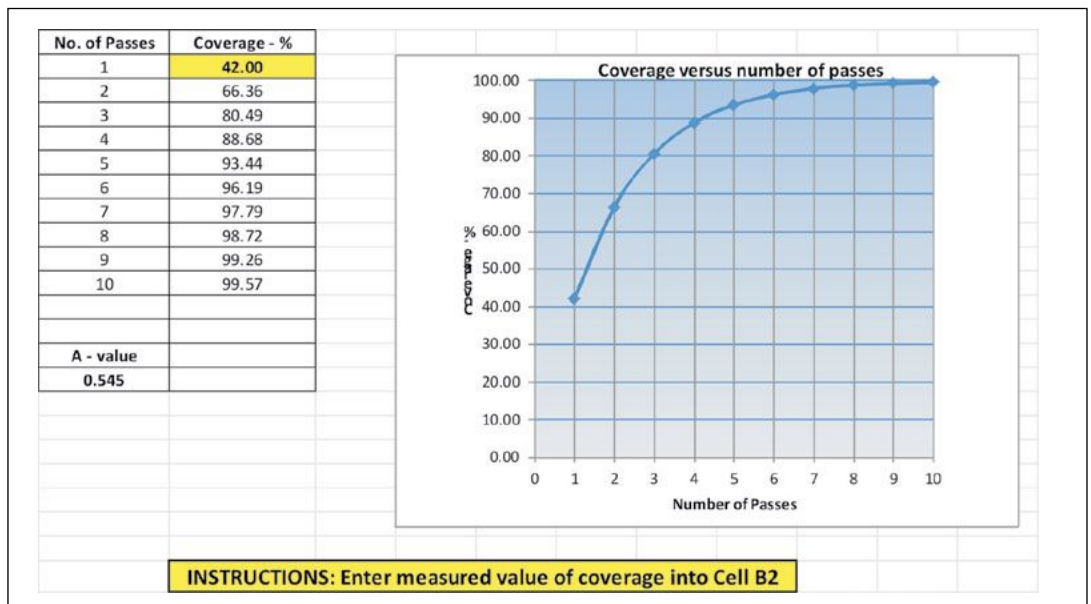

Fig.4. Example showing application of Coverage Prediction program.
A simple Coverage Prediction program has been produced and is available free from www.shotpeener.com. Fig.4 shows a program example with the first data point inserted, as instructed. Numerical predicted coverage values are given – which saves having to read them from the graph. The program calculates the A-value by using equation (2) and then predicts coverages using equation (1).